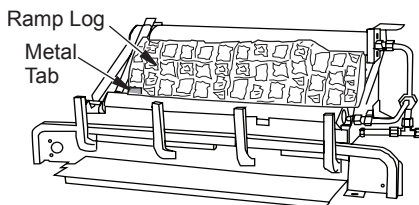

Figure 28 - Installing Fiber Ramp Log
1. Place fiber ramp log in center of chassis as shown in Figure 28. The fiber ramp log can be identified by the shape and much lighter weight when compared to the other logs. The log must sit flat on the black sheet metal and behind the left metal tab as shown. Make sure the side marked "BOTTOM" is setting down.